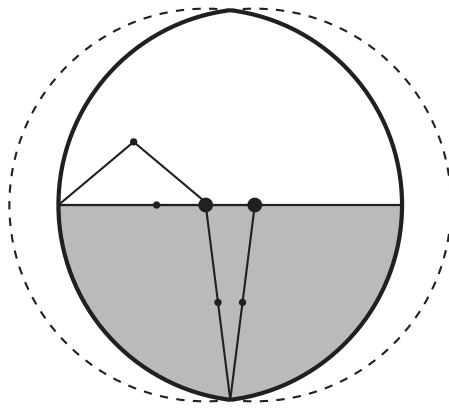

Figure 2.9: Parallel SCARA robot workspace solution
- (a) The top view of the workspace is shown by the shaded region in Figure 2.9, and is the intersection of two circles. To solve for the workspace area, sum the area of the two circle sectors and subtract the triangle area (formed when the arms are fully extended in the y position) that is counted twice. The workspace volume is then the 3D extrusion of this shape into the page by the reach of the prismatic joint.